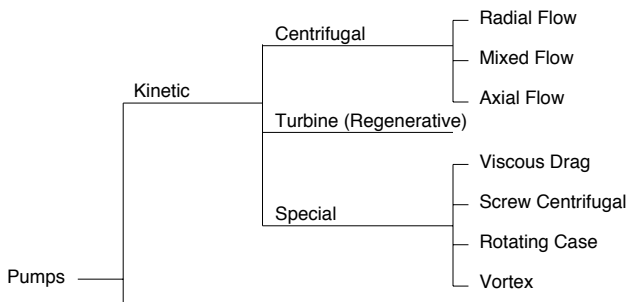

FIGURE 77. Types of Misalignment
- Misalignment of the pump and driver shaft can be angular (shaft axes concentric but not parallel), parallel (shaft axes parallel but not concentric), or a combination of both (Figure 77).